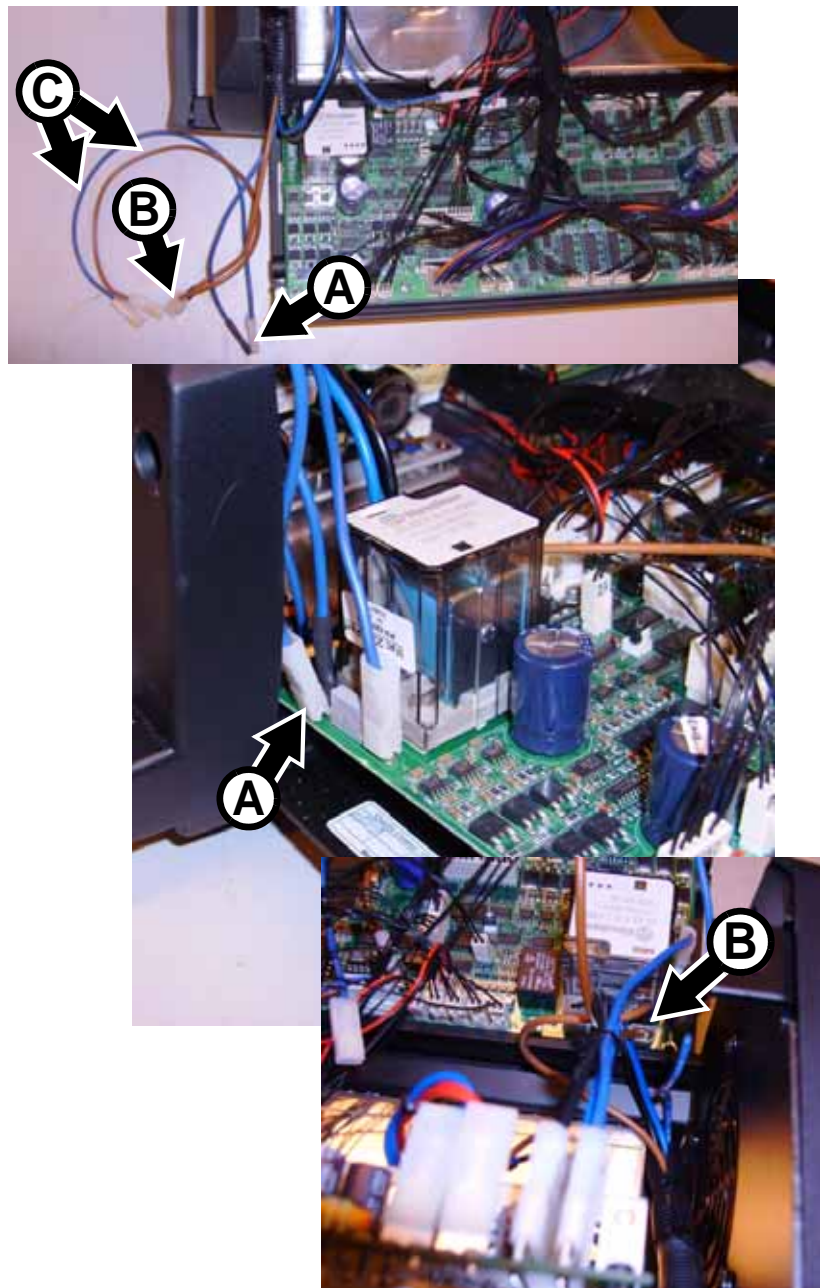
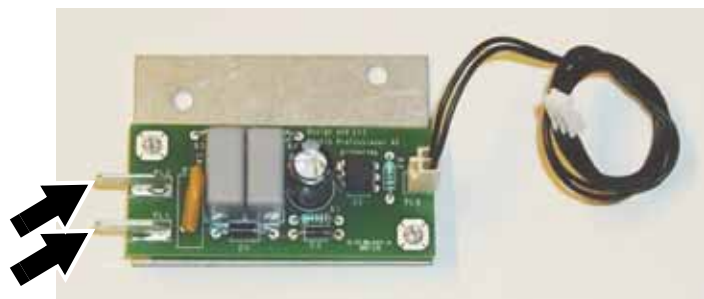

Figure 31
Figure 32
33. See Figure 31. Still working with the ballast wiring harness from the mains filter, connect the double spade connector with the blue leads **A** to connector J8 beside the lamp on/off relay, and connect the double spade connector with the brown leads **B** to connector J5. make sure that the double spade connectors will not be trapped or squeezed when you close the PCB side cover.
34. You are now left with one free blue and one free brown lead (**C** in Figure 31) connected to the double spade connectors you have just installed. See Figure 32. Connect the free blue lead and the free brown lead to spade connectors PL1 and PL2 (arrowed) on the remote lamp on/off opto-switch PCB you installed in step 25. (photo shows PCB before installation). Polarity is not important.